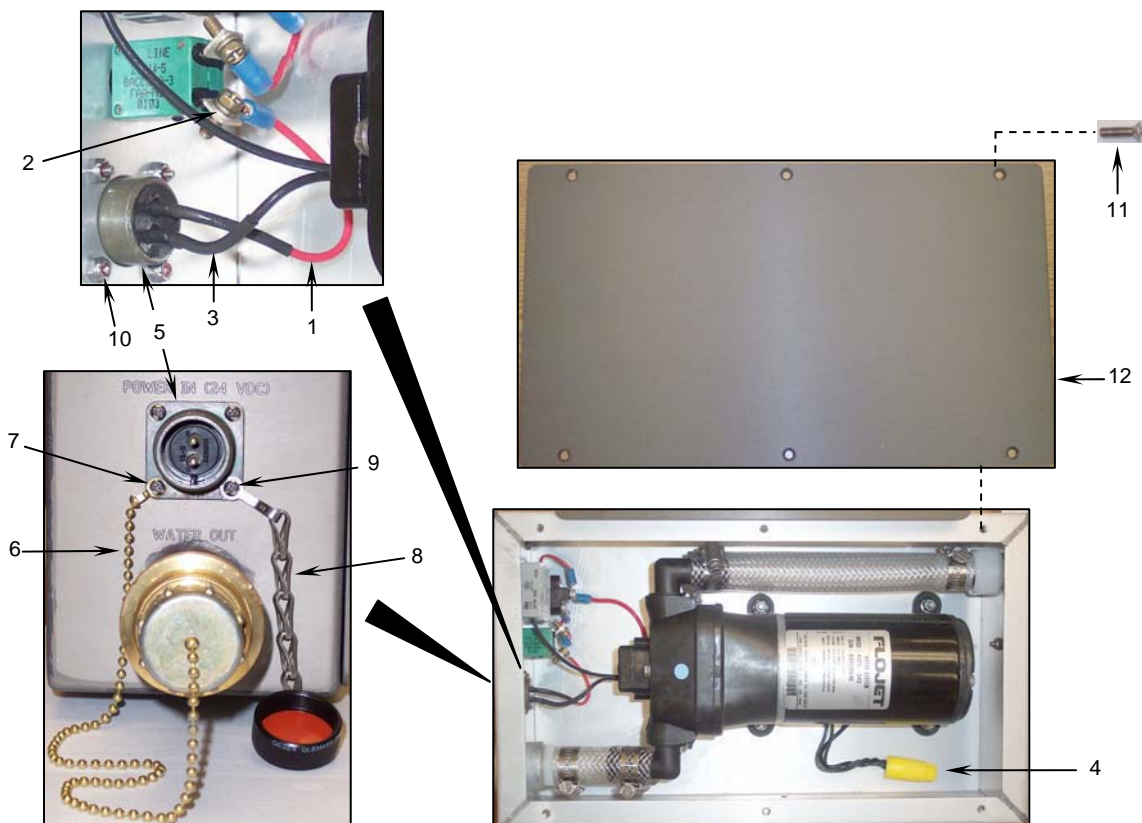

Figure 4. Installing the Sink Fill Pump Assembly Electrical Connector.
- a. Connect the red connector wire (**Figure 4, Item 1**) to the lower circuit breaker terminal (**Figure 4, Item 2**) and coat the connection with corrosion preventative sealant.
- b. Twist the black connector wire (**Figure 4, Item 3**) together with the other two black wires and secure using a new watertight wirenut (**Figure 4, Item 4**).
- c. Insert the new connector (**Figure 4, Item 5**) into the fill pump enclosure.
- d. Secure the electrical connector to the enclosure. Ensure the end of the water out cap chain (**Figure 4, Item 6**) is fitted over the bottom left screw (**Figure 4, Item 7**) and that the end of the connector cap chain (**Figure 4, Item 8**) is fitted over the bottom right screw (**Figure 4, Item 9**).
- e. Secure the new connector, the water out cap chain (**Figure 4, Item 6**), and the connector cap chain (**Figure 4, Item 8**) to the enclosure using the four screws (**Figure 4, Item 7**) and four self-locking nuts (**Figure 4, Item 10**).
- f. Apply sealing compound to the six flat head machine screws (**Figure 4, Item 11**) and secure the fill pump cover (**Figure 4, Item 12**) to the sink fill pump assembly enclosure using the six screws.